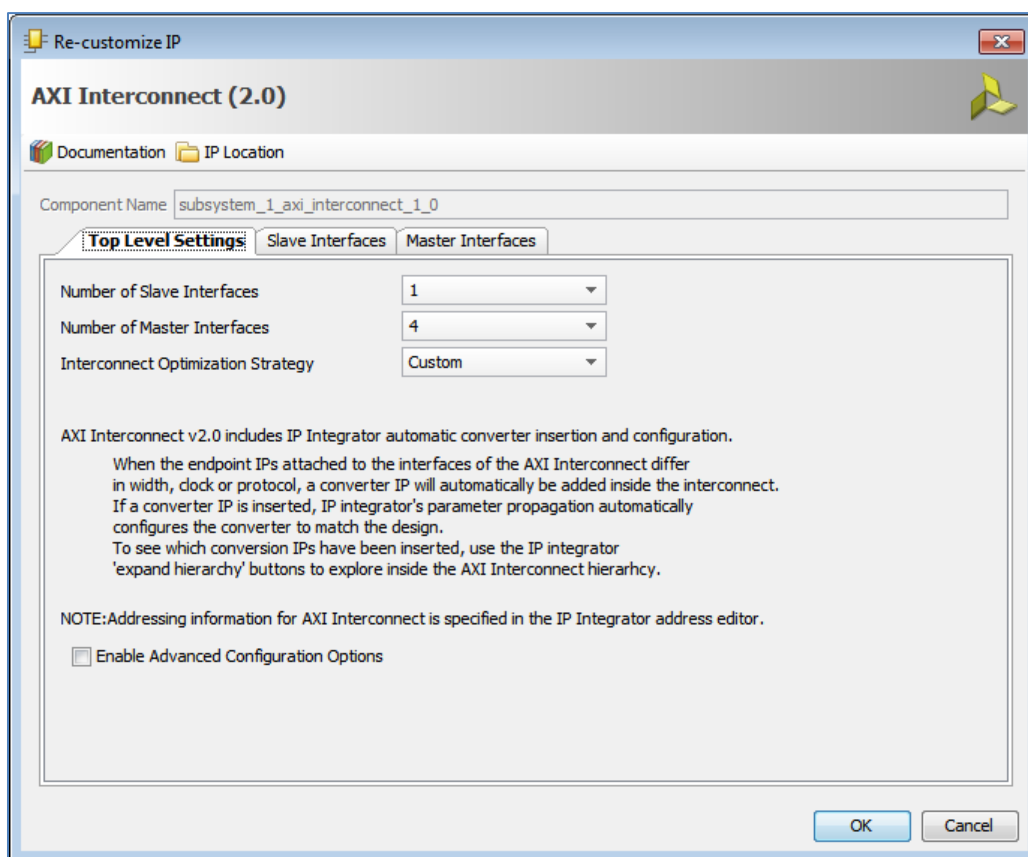

Figure 22: Re-customize the AXI Interconnect
7. **Double-click** on the **AXI Interconnect** core to open the Re-Customize IP dialog box as seen in Figure 22.